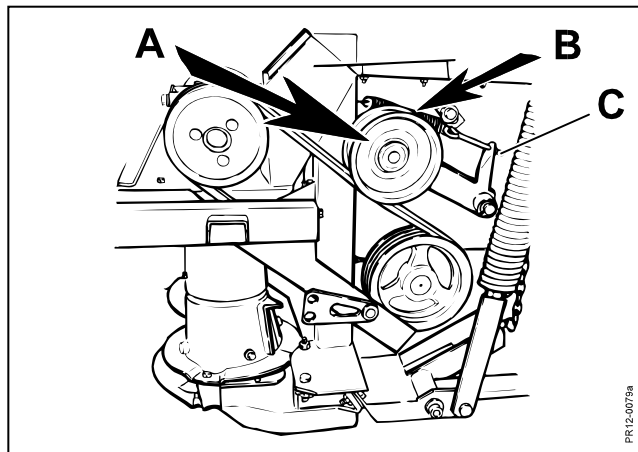

Fig. 5-18
**Fig. 5-18** The V-belts are tightened with the tension pulley **A**. The tension pulley is tightened automatically by a spring **B**. The spring should be adjusted so that there is always at least 1-2 mm “air” between the spring coils. Adjustment is made by means of a nut at **C**.